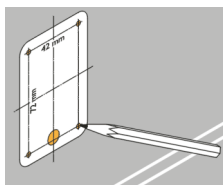

Fig. 2
- 1 - Mark the location of the fixing holes using the drilling template supplied with the receiver ( Fig. 2 );